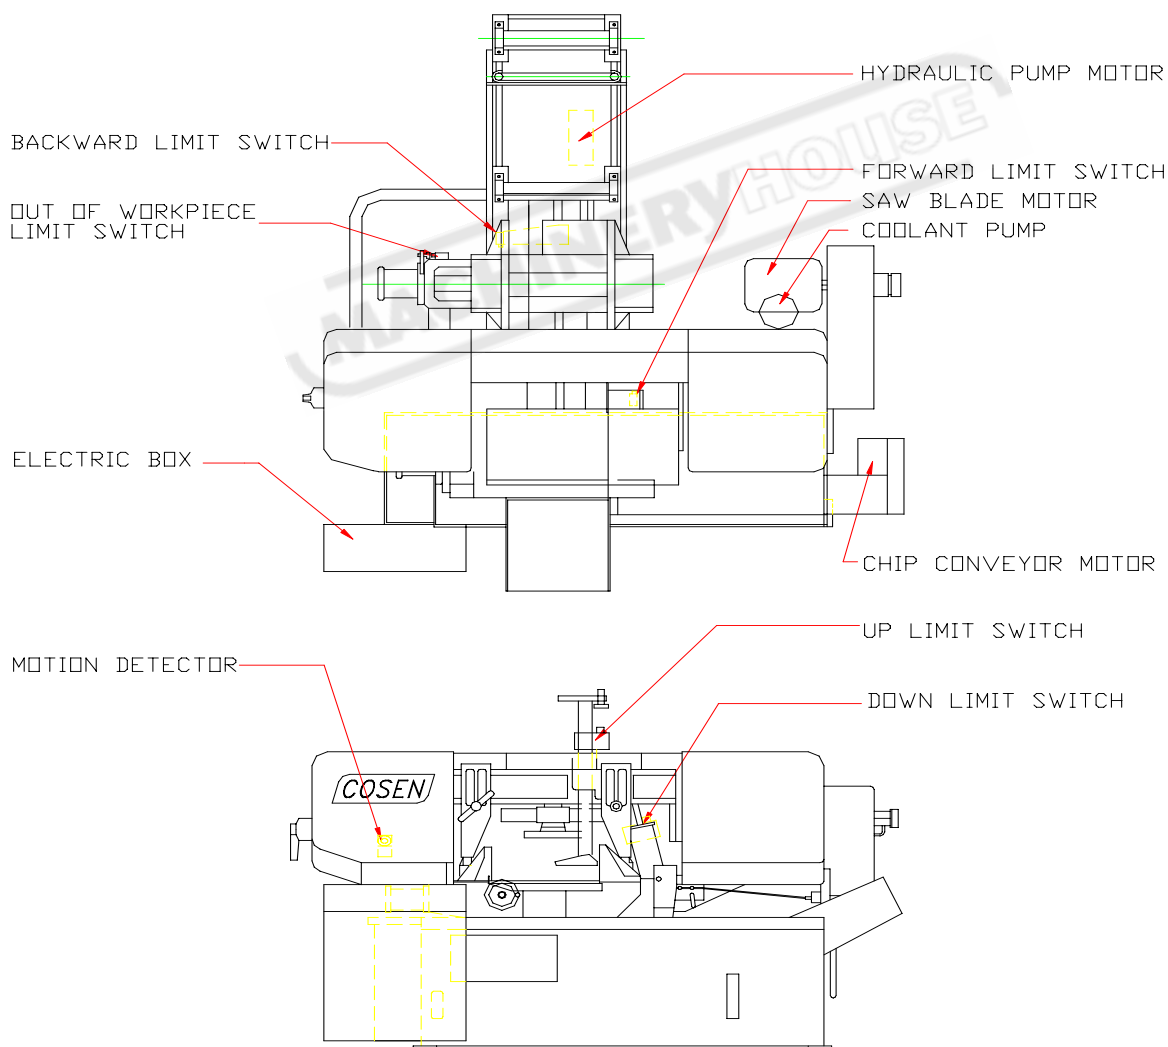

Fig.5-1 ELECTRICAL COMPONENTS LAYOUT OF MACHINE
- The electrical components on the whole machine is shown in Figure 5.1.